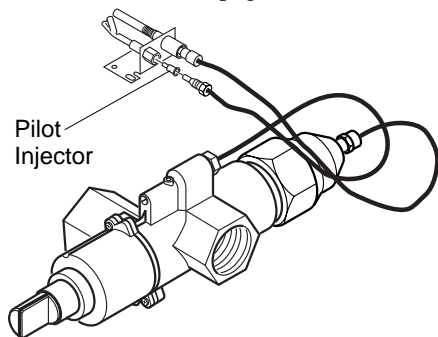

Figure 16 - Installing Propane/LP Pilot Orifice
- Gently loosen and remove the pilot line connection from the bracket (see Figure 16).
- Replace the injector (see Figure 16) with the propane/LP pilot injector with the red stripe.